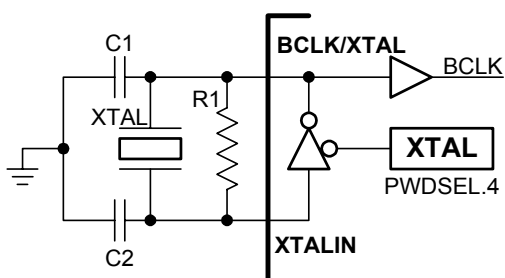

**Figure 43. Internal ring oscillator.**
1. An internal ring oscillator operates at frequencies ranging between 5 MHz to 20 MHz, as shown in Figure 43. The ring oscillator frequency is temperature, voltage, and process dependent. The internal ring oscillator can be